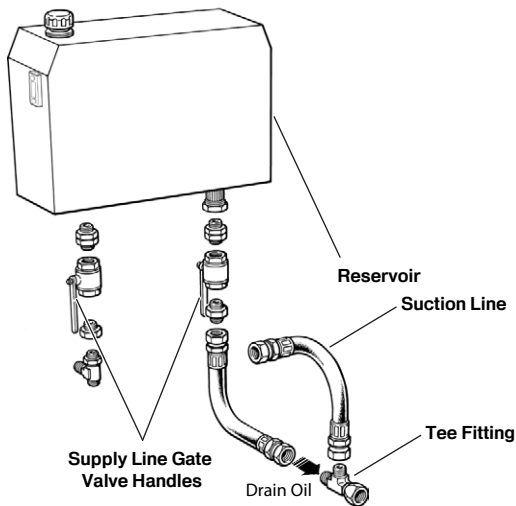

Figure 5-31. Reservoir and Fittings
4. Cap the tee fitting to prevent contamination (Figure 5-31).